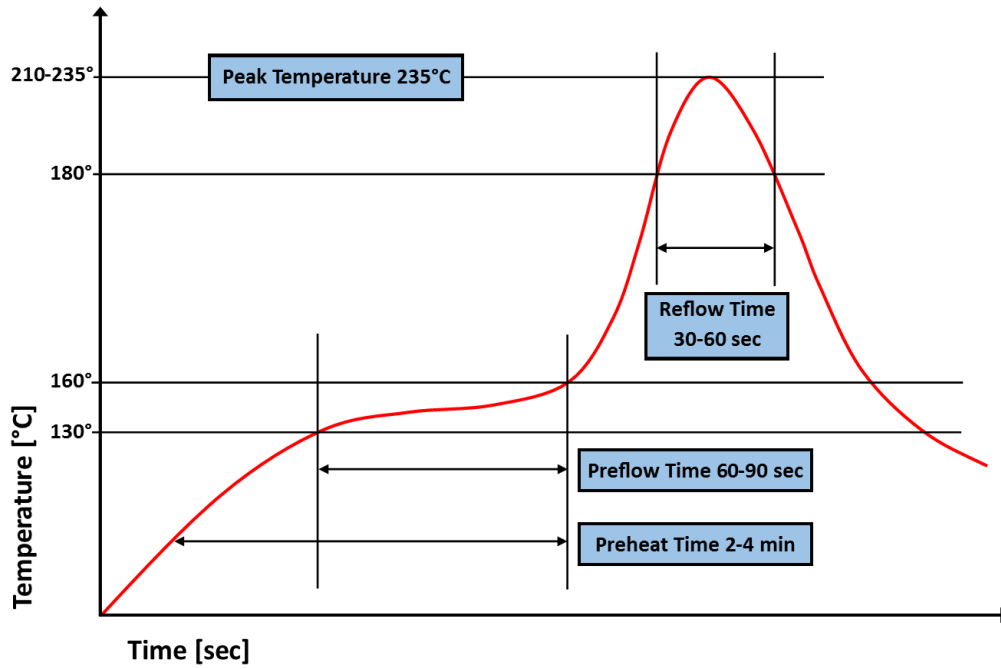

Figure 5 – Low Temperature Solder Reflow Thermal Profile
**Reflow:** The surface mount component is conducive to most of today's conventional reflow methods. A low and high temperature thermal reflow profile are shown in Figures 5 and 6, respectively. Manual soldering of these components can be done with conventional surface mount non-contact hot air soldering tools. Board pre-heating is highly recommended for these selective hot air soldering methods. Manual soldering with conventional irons should be avoided.